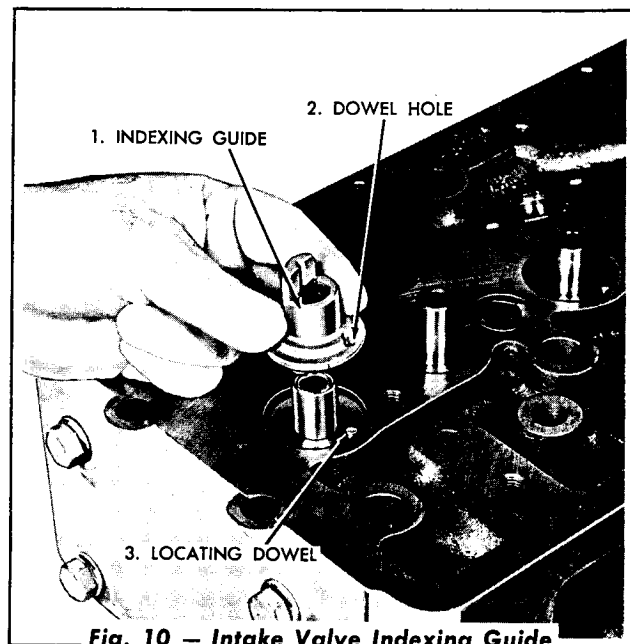

Fig. 10 — Intake Valve Indexing Guide
4. The intake valve indexing guide may be removed after the removal of the valve springs. Figure 10.
5. To install each intake valve indexing guide, start the guide over the valve stem, hold upward on the valve stem and index guide with the valve stem. Lower the guide on the cylinder head, aligning the hole in the guide with the guide dowel pin (Fig. 10) in the cylinder head.